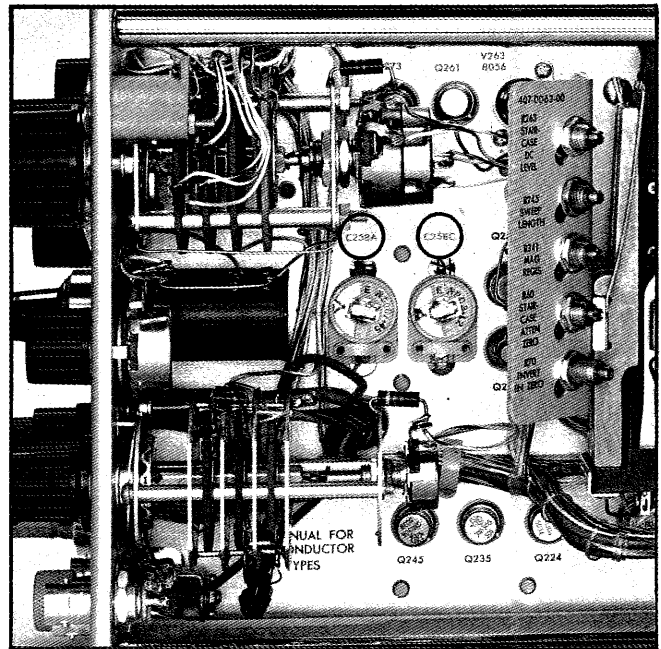

Fig. 5-29. Main chassis locations of C258C and C258A.
19. Adjust Staircase Samples/Sweep Capacitors, C258C and C258A ①
b. Set the Type 3T4 TIME/DIV switch to 10 μ SEC. The display will be a "chronograph" of the frequency difference between the Type 180A 10 mc and the Samples/Sweep frequency. The chronograph display is actually the heterodyne beat note between the two frequencies. Adjust C258C (location shown in Fig. 5-29) for minimum frequency difference for a display similar to Fig. 5-28a. If the two frequencies differ slightly, the display will be similar to Fig. 5-28b. Adjust C258C to present a nearly straight line display similar to Fig. 5-28a. C258C adjustment is very sensitive.
c. Set the Type 3T4 SAMPLES/SWEEP switch to 100. If the frequency of Samples/Sweep is nearly correct, the display will be similar to Fig. 5-30b. Adjust C258A (location shown in Fig. 5-29) very slowly until the display is similar